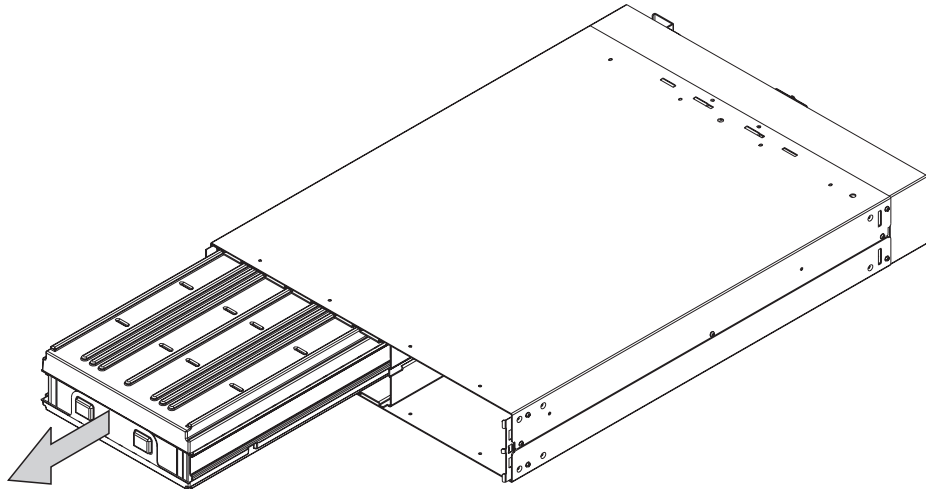

Figure 247. Removing the 2145 UPS battery
4. Remove the battery plate, to access to the battery, as shown in Figure 247.